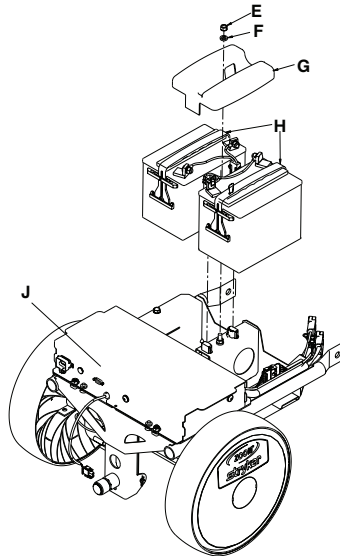

Figure 19 – Remove the batteries
15. Using a 1/2" socket with a 3/8" drive extension and a 3/8" drive ratchet, remove the hex keps (E) and hex jam nuts (F) that secure the battery cover (G) to the battery tray weldment (Figure 19). Remove the battery cover. Save all parts.
15. Using a 1/2" socket with a 3/8" drive extension and a 3/8" drive ratchet, remove the hex kep nut (E) and hex jam nut (F) that secure the battery cover (G) to the battery tray weldment (Figure 19). Remove the battery cover. Save all parts.
25. Remove the two 12V gel cell batteries (H) from the patient left side of the product (Figure 19). Save the batteries.
27. Using a 1/2" socket with a 3/8" drive extension and a 3/8" drive ratchet, remove the four hex nuts that secure the electrical enclosure assembly (J) to the carriage weldment. Remove and discard the electrical enclosure assembly.